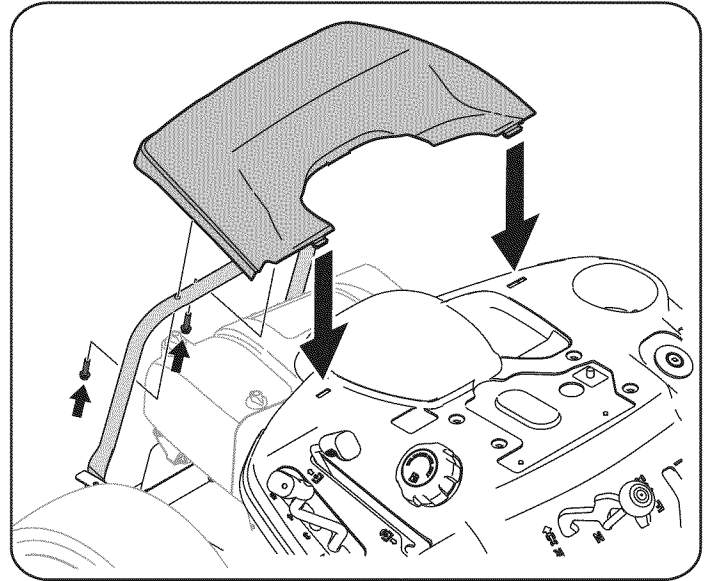

Figure 9
1. Install the rear engine cover by positioning it in place as shown in Figure 9. Tip the engine cover forward to fit it into the slots provided, then rotate it backwards to align the mounting holes.